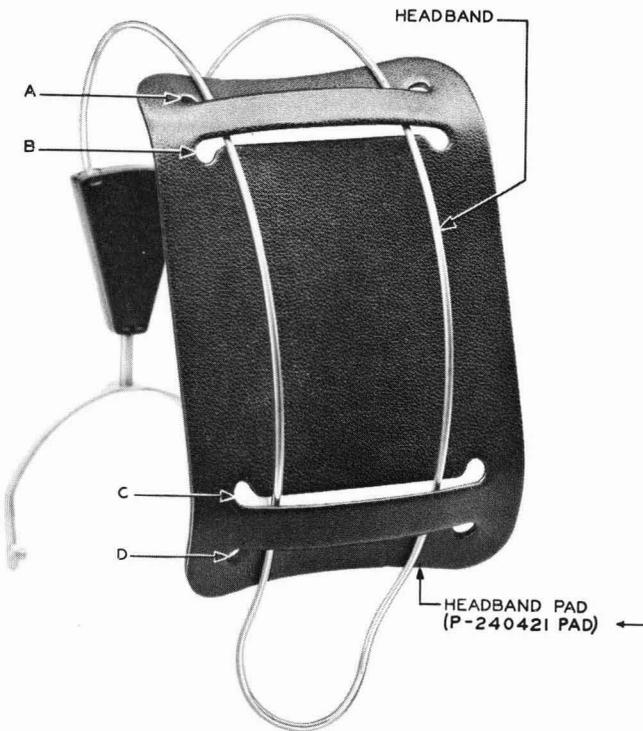
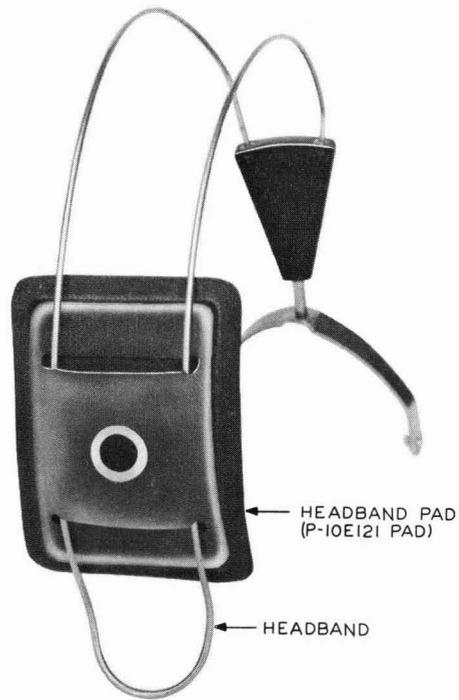

Fig. 9—Headband Pad in Position on Headband
Fig. 10—No. 15A Headband Equipped With P-10E121 Pad
3.14 Headband Pad: Remove the pad from the headband. If the P-240421 pad is to be used, place the pad on the headband by passing the free end of the headband through slots, A, B, C, and D in the pad as shown in Fig. 9. If the P-10E121 pad is to be used, place it on the headband as shown in Fig. 10 and fasten the snap by pressing against it from both sides of the pad.